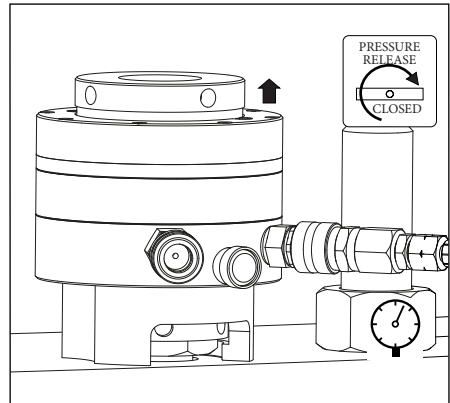

FIGURE 7, PRESSURIZING THE TENSIONER
6. When the calculated hydraulic pressure is reached, stop the pump. Recheck the oil pressure gauge after pump has stopped. Be sure the pressure is stable (not increasing or decreasing). Threads may be visible between the nut and the joint surface at each tensioner. See Figure 7.
- Be sure the pressure remains stable (not increasing or decreasing). Threads may be visible between the nut and the joint surface at each tensioner. See Figure 7.
18. When the “second pass” pressure “B” is reached, stop the pump. Recheck the oil pressure gauge after pump has stopped. Be sure the pressure remains stable (not increasing or decreasing). Threads may be visible between the nut and the joint surface at each tensioner. See Figure 7.